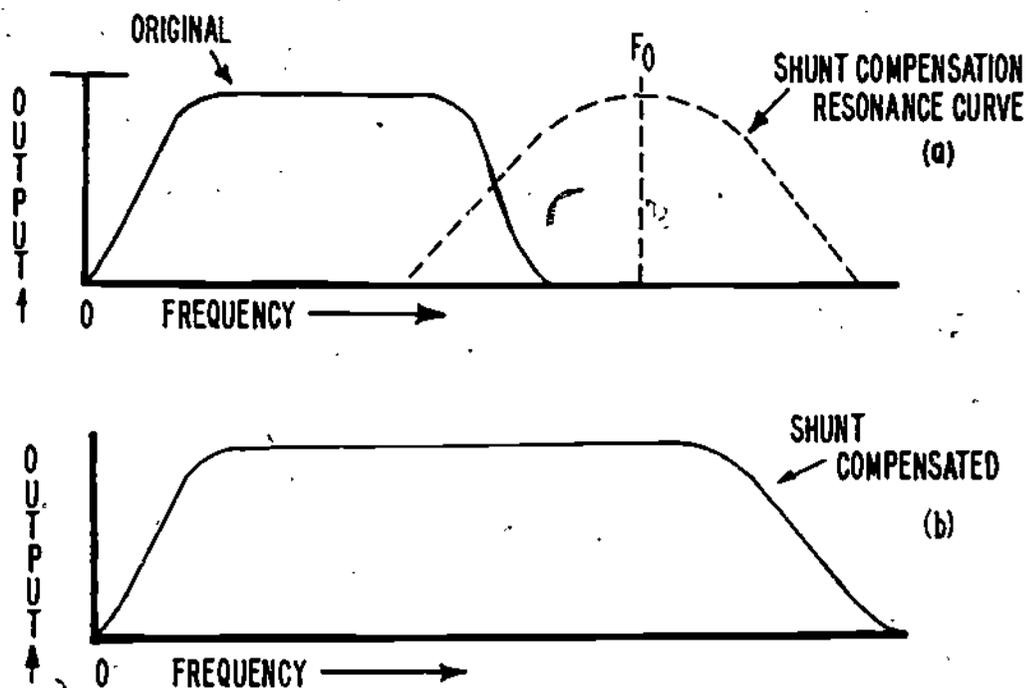

Figure 13
12. Figure 13 shows how shunt compensation improves video amplifier frequency response.